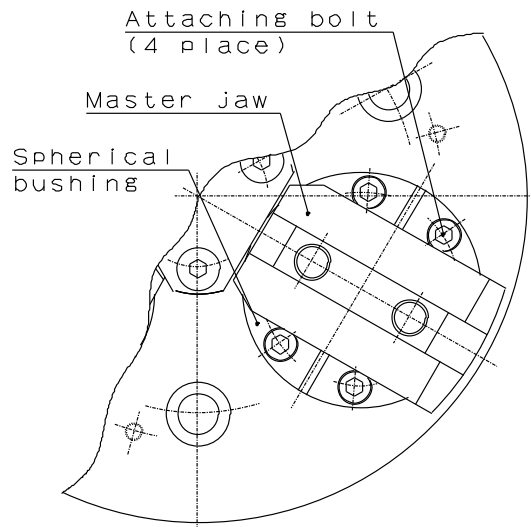

Fig.7
4. Loosen the attaching bolt. (Refer to Fig.7)